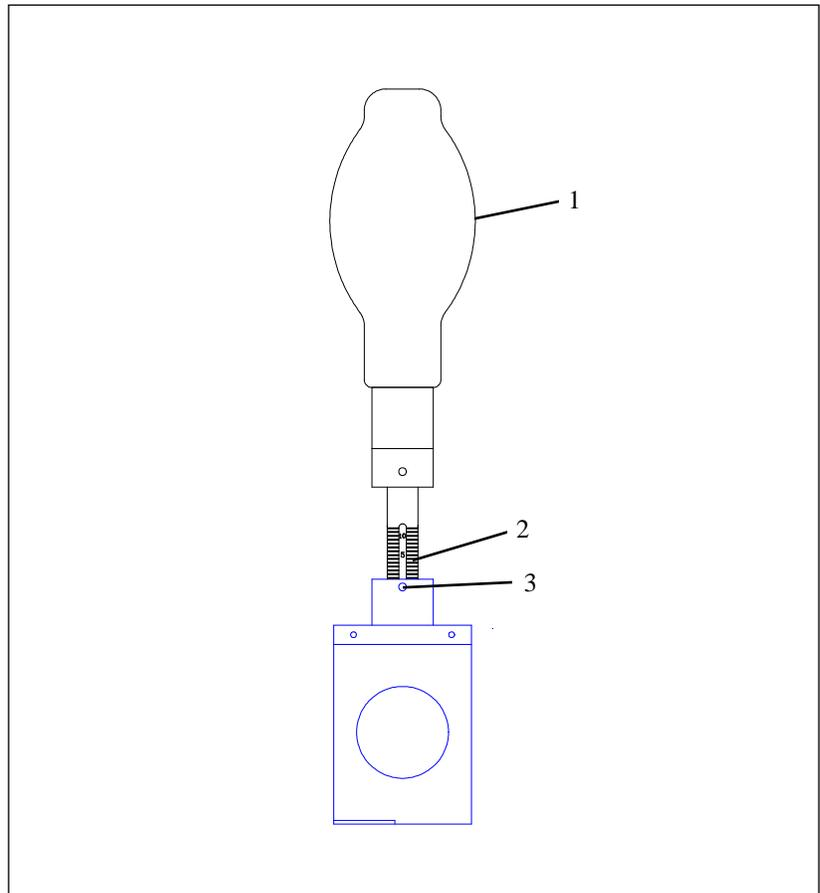

Figure 4. Elevating Lamp Beam
1. See Figure 4. Loosen the hex head screw (3).
2. Raise the lamp (1) to the appropriate reference groove (2) to lower the beam or lower the lamp to the appropriate reference groove to raise the beam.
3. Tighten the hex head screw (3).